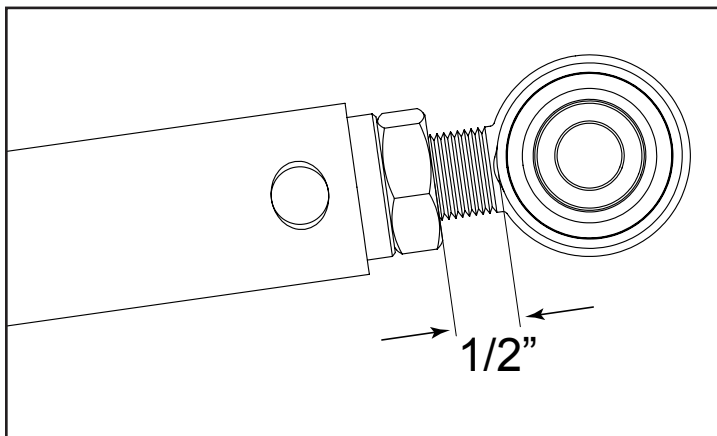

FIGURE 3 - STEP 5
5. Install all these components in the control arm bungs using the diagram below. The starting point for the adjustment on the rod end should be a 1/2" from the jam nut. **SEE FIGURE 3**